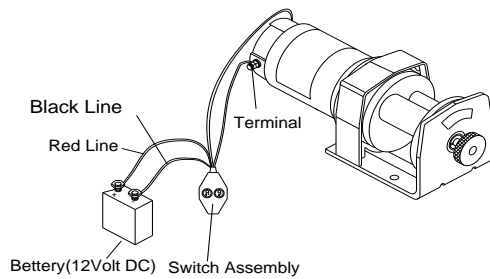

Fig. 1
Route the two couple of lines from the switch to the motor and battery respectively. Connect the red line to the positive (1) terminal and the green (or black) line to the negative (2) terminal of the battery. (See Fig. 1).